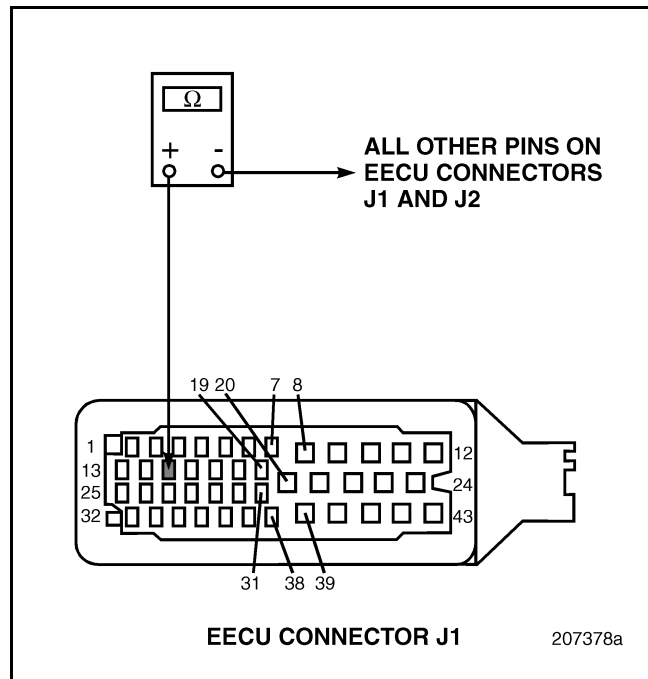

Figure 169
4. Check for continuity between EECU harness connector J1 pin 15 (signal line) and all other pins in EECU harness connectors J1 and J2 (see Figure 169).